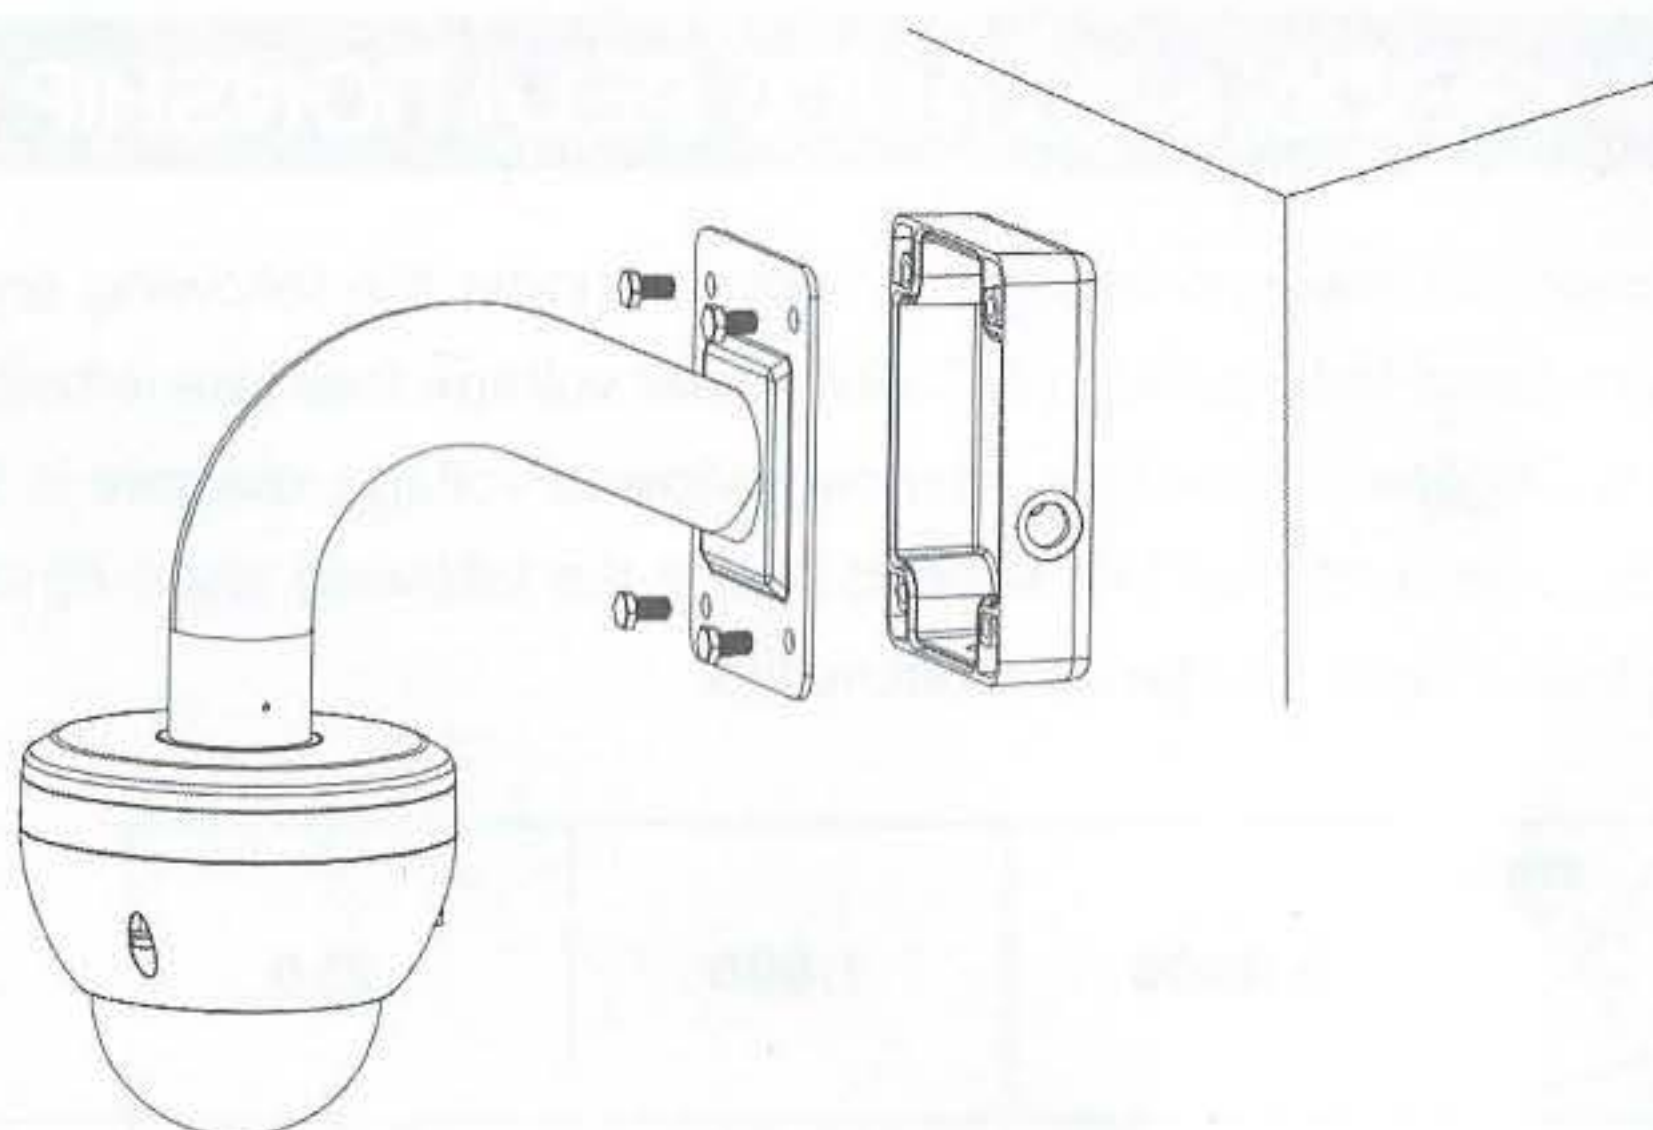

Figure 4-4
- 3) Complete the cable connection of the junction box and use 4 M8 screws to secure the wall mount bracket in the box. Now the installation is complete. See Figure 4-4.